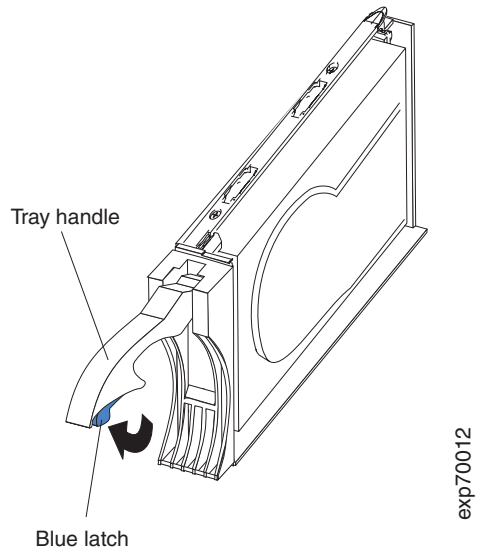

Figure 49. Drive CRU latch
- b. Pull the handle on the tray out so that it is in the open position, as shown in Figure 49 on page 69.
- a. Press on the inside of the bottom of the tray handle to release the blue latch as shown in Figure 49 on page 69.